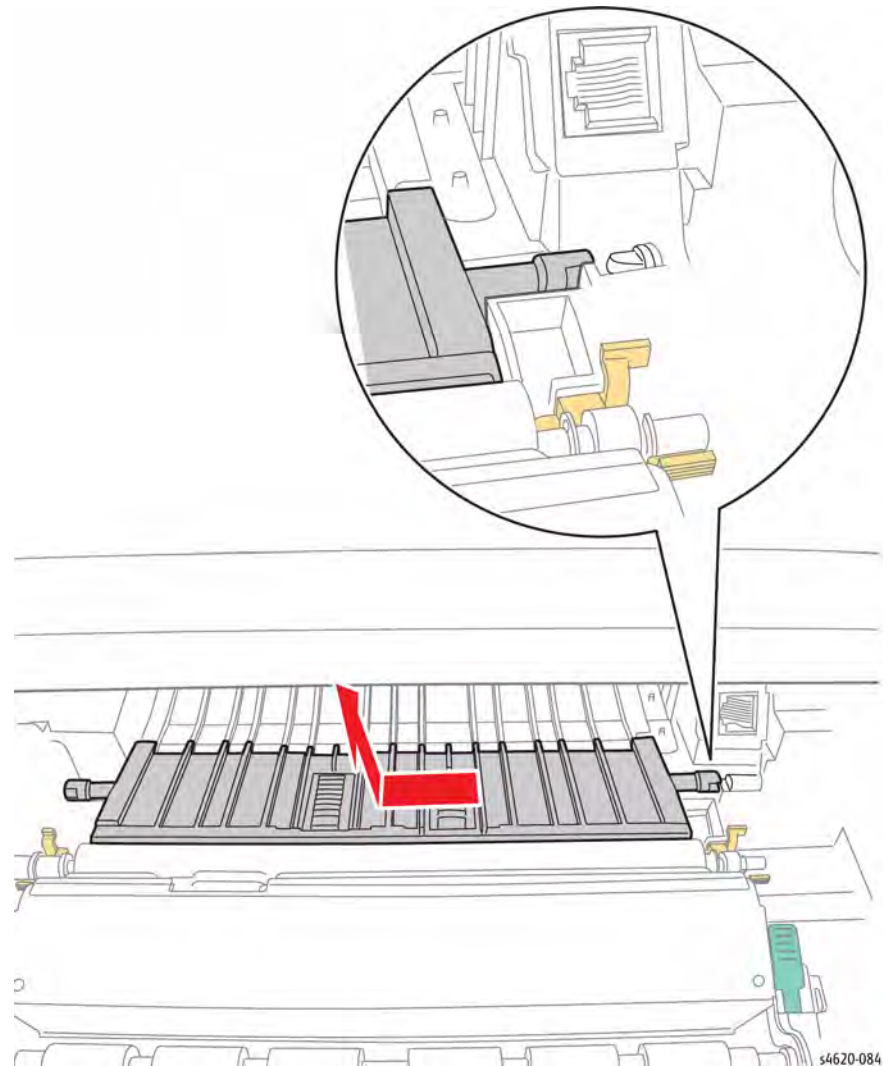

Figure 3 Remove the Shaft Frame Assembly
10. Raise the assembly to remove it from the printer, Figure 3.